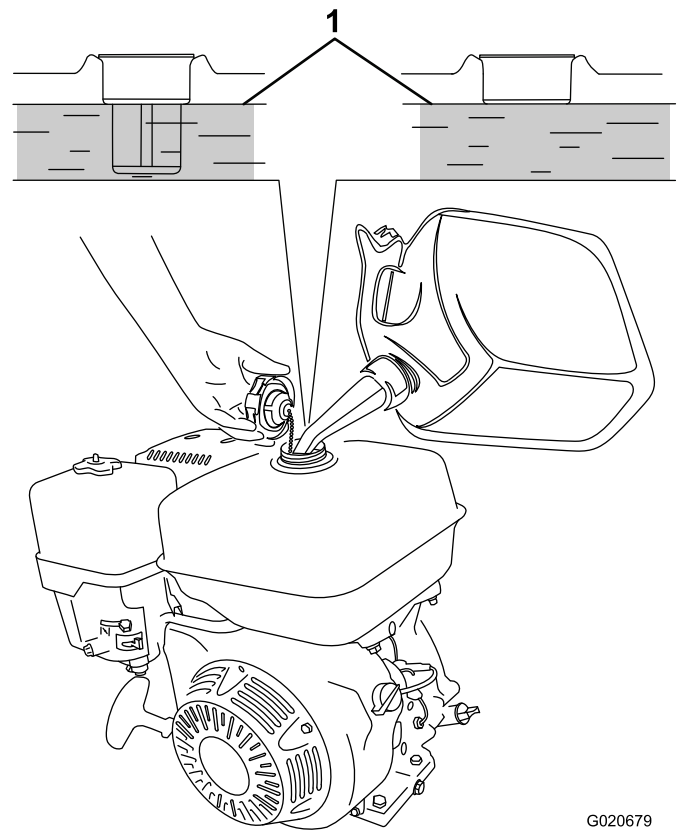

Figure 27
3. **For Model 60221HD only:** Add fuel to the fuel tank until the level is at the maximum fuel level (Figure 27).